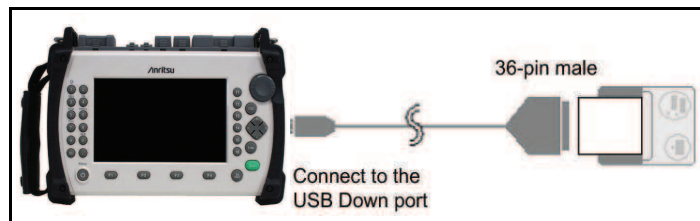

Figure 6-31: Connecting the BL-80RII Printer
1. Connect the BL-80RII or SD1-31 printers to the MT9083 Series as shown in Figure 6-31, and then power up the printer.